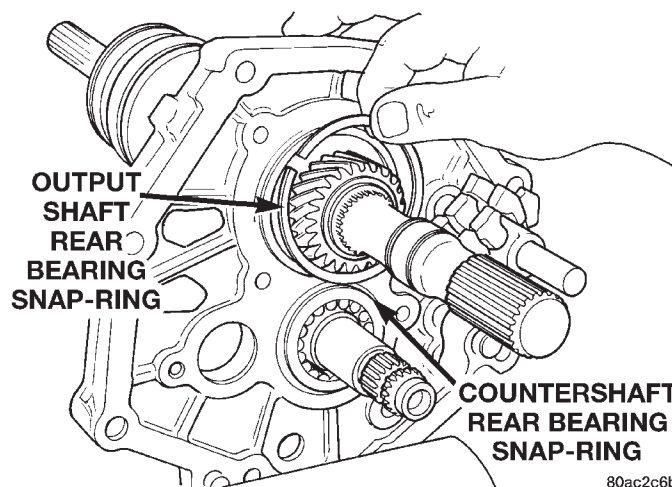
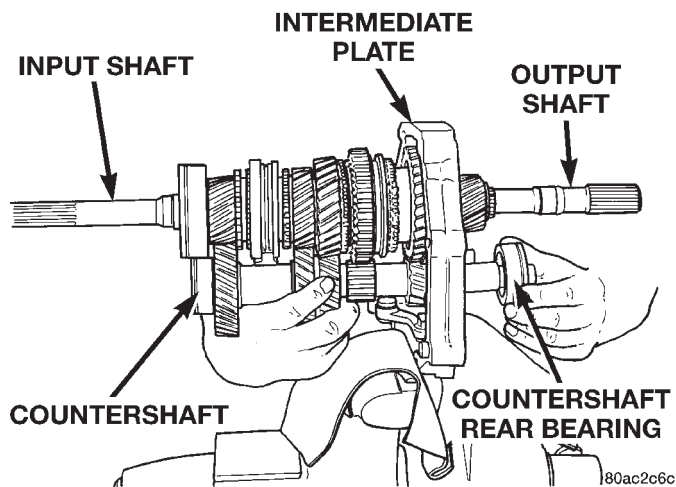

Fig. 61 Remove Output Shaft Rear Bearing Snap-ring
Fig. 62 Remove Countershaft and Countershaft Rear Bearing
(14) Remove snap-ring holding output shaft rear bearing into the intermediate plate (Fig. 61).
(15) Remove countershaft rear bearing snap-ring.
(16) With aid of an assistant, support the mainshaft and countershaft. Tap on the rear of the mainshaft and countershaft with a suitable plastic mallet. This will release the countershaft from the countershaft rear bearing and the mainshaft rear bearing from the intermediate plate. The countershaft will release from the countershaft bearing first and can be removed by moving the countershaft rearward and downward (Fig. 62).